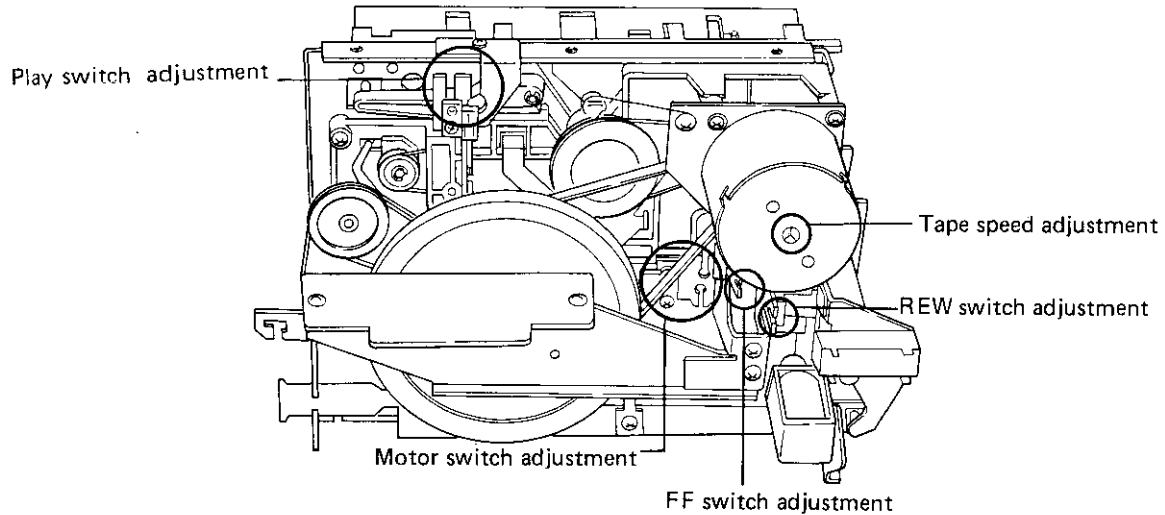

Fig. 14 Mechanical Adjustment Points
- Refer to Fig. 14 for points of adjustments.